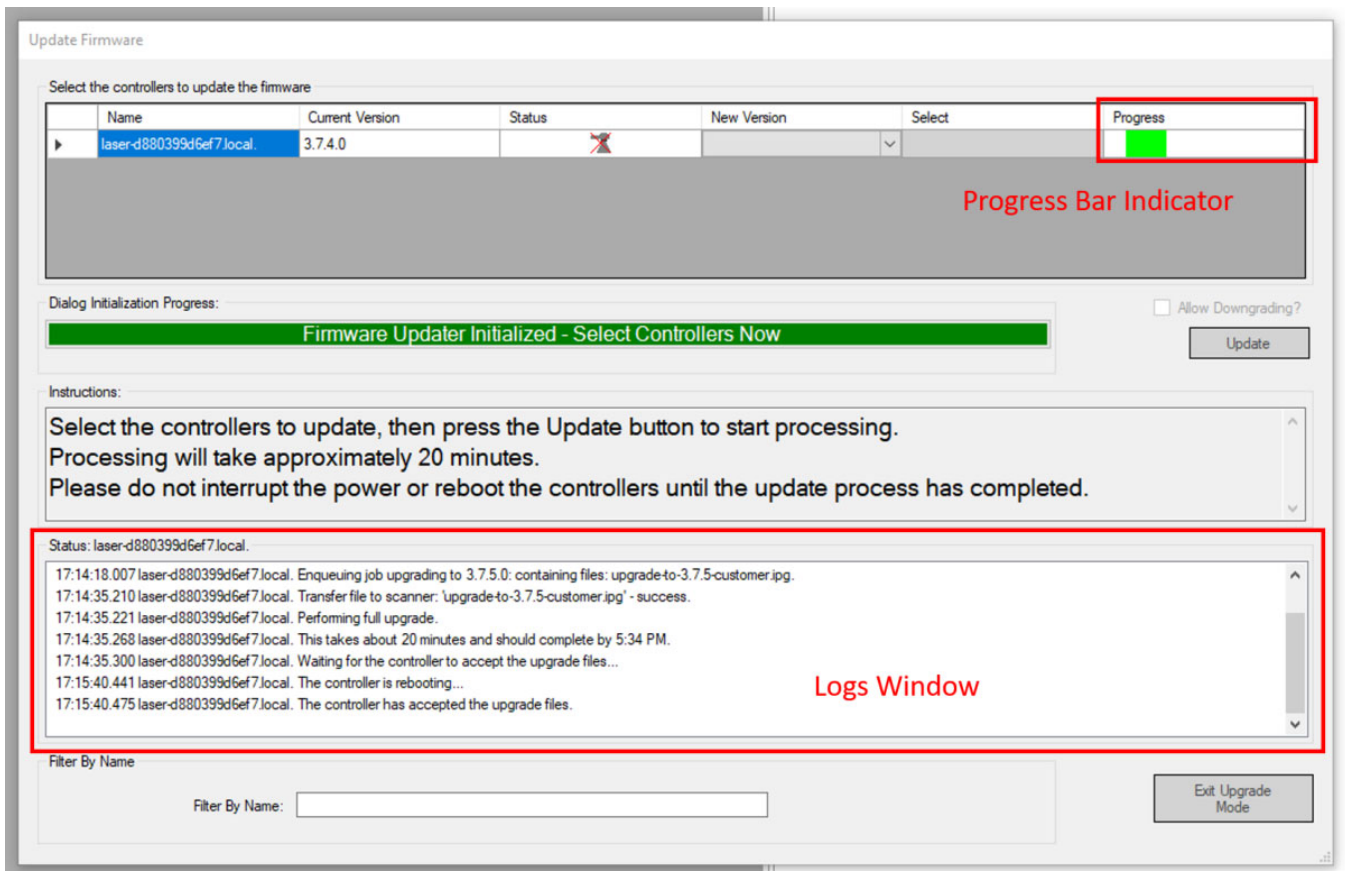

Figure 377: Update Indicators
6. Wait while the update process takes place. During the update, the window will display a progress bar and updates in the logs window. See Figure 377 (below).